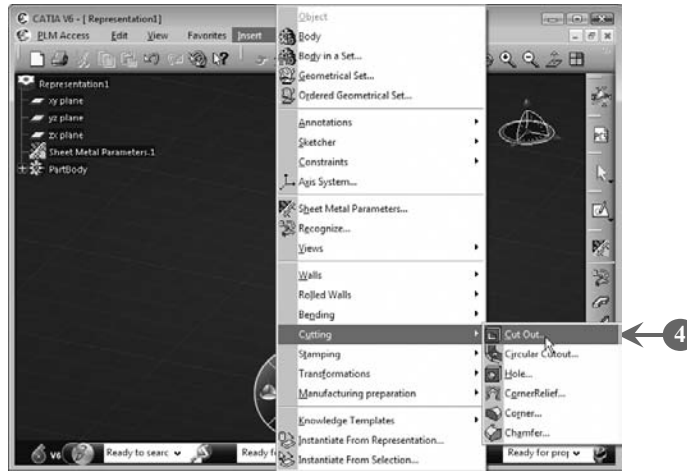

FIGURE 6.74
4. *Select* **Insert > Cutting > Cut Out** from the menu bar to create a cutout, as shown in **Figure 6.74**: